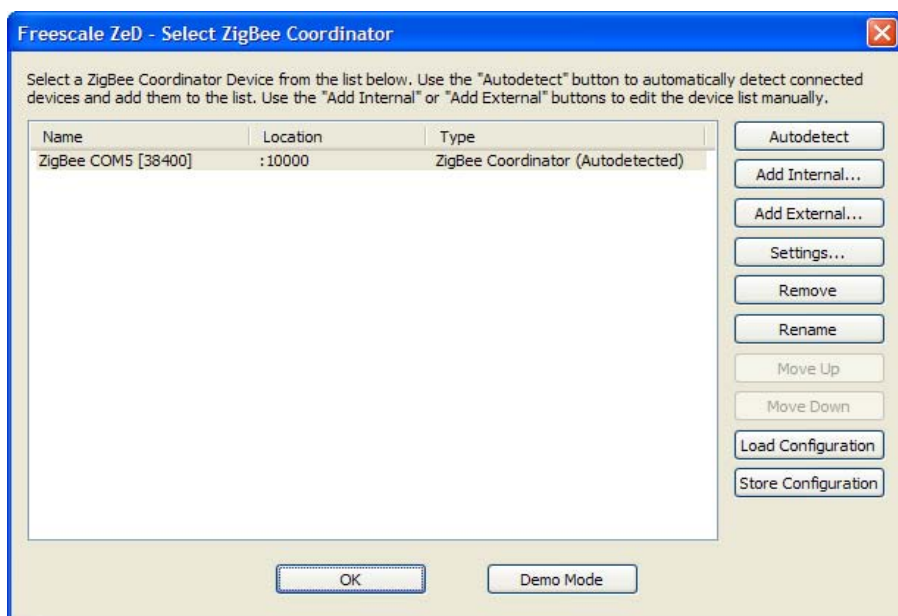

Figure 4. ZigBee Coordinator Selection Dialog
4. If the Combined Interface board is detected, the board port is displayed in the list as having the type “ZigBee Coordinator (Autodetected)” as shown in the Coordinator Selection window (Figure 4).